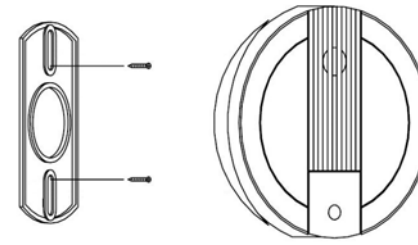

FIGURE 8
7. Line up the slot of the bracket and the detector. Push the detector onto the mounting bracket and turn it clockwise to fix it into place. (FIGURE 8) Pull outward on the detector to make sure it is securely attached to the mounting bracket.